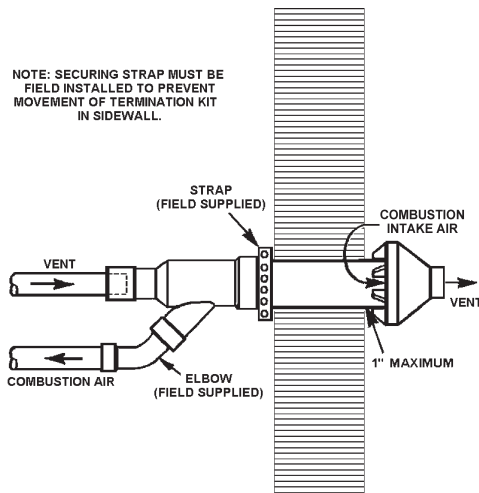

Figure: 30
NOTE: Ensure termination location clearance dimensions are as shown in the diagrams found in "Figure: 29" and Figure 30. When extending the length of the 4" pipe, the added length beyond 21-1/8" must be deducted from the maximum equivalent feet of vent pipe.
7. Cement heater combustion-air and vent pipes to concentric vent termination assembly. See Figure 30 for proper pipe attachment.